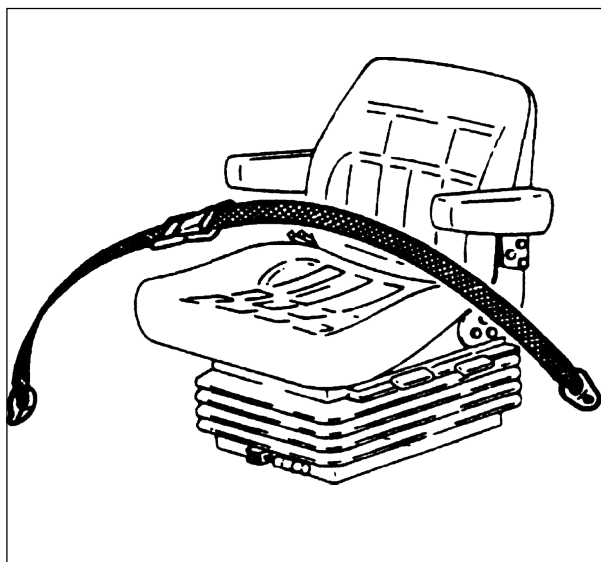

Fig. 6
- Check the seat belt for damage. A damaged seat belt must be replaced (Fig. 6).